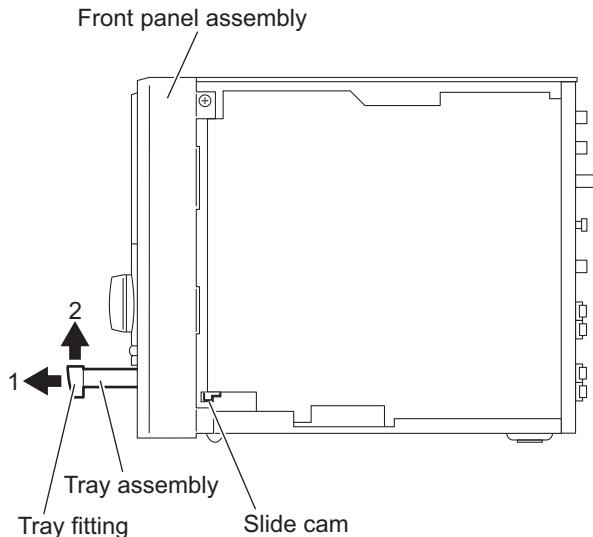

Fig.5
(See Figs.5 to 8)
- (1) From the right side of the main body, push the slide cam and pull the tray out of the main body in the direction of the arrow 1. (See Fig.5.)
- (2) Remove the tray fitting from the tray in the direction of the arrow 2. (See Fig.5.)